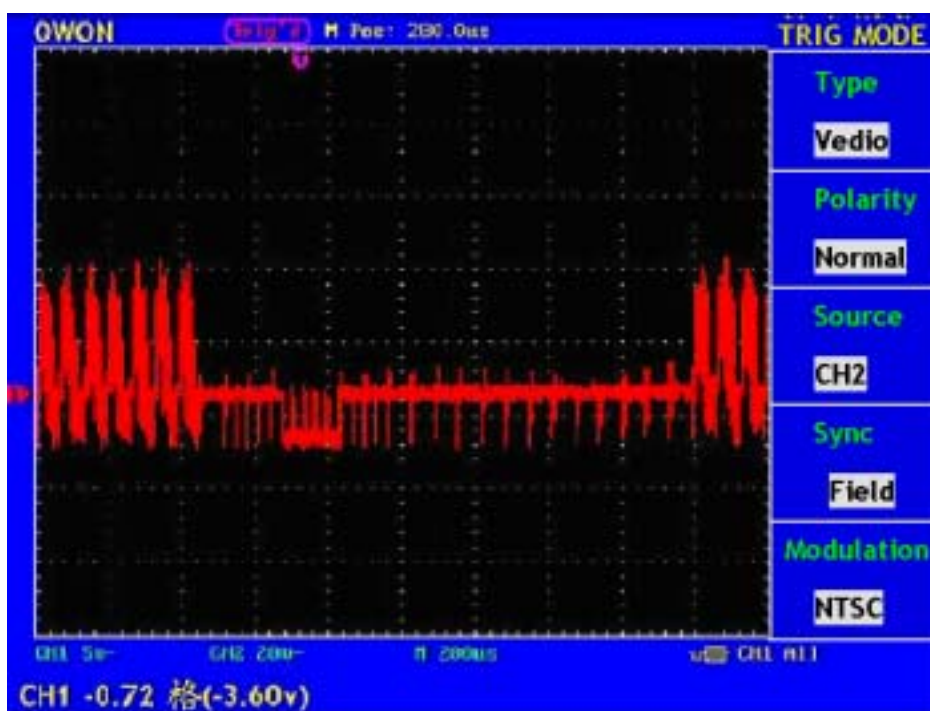

Fig. 37 Video field trigger Oscillogram
- 5、 Press F4 to choose synchronization as “Field” (refer to Fig.37)